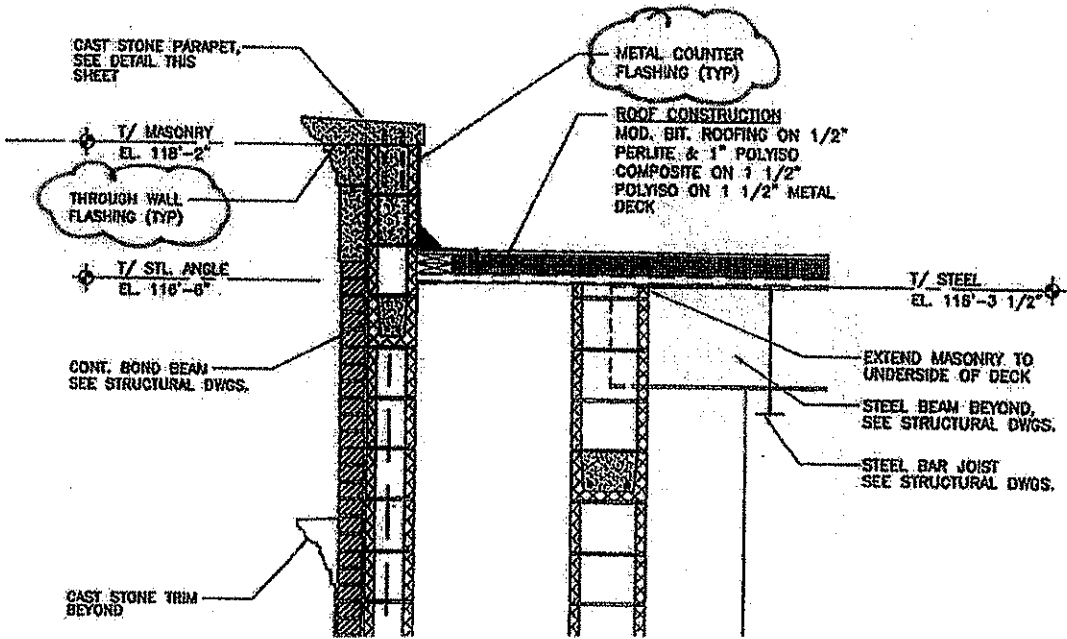

Figure 1. Wall Section from Construction Documents Showing Through Wall Flashing to be Installed
5. The construction documents indicate that there was to be a through wall flashing and a counter flashing installed directly below the coping unit (see Figure 1).